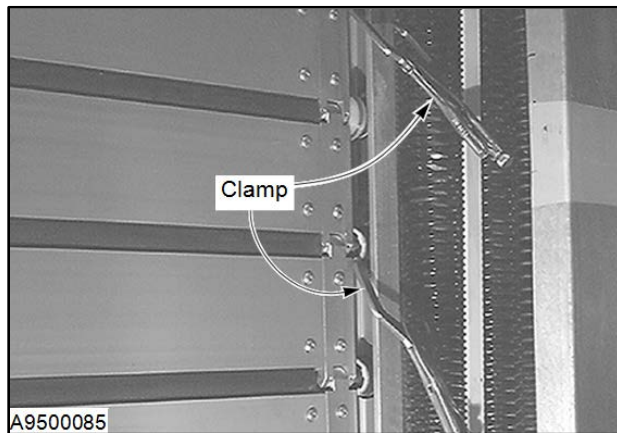

Figure 54
4. Place clamps across the exposed door track to secure the door and prevent it from accidentally falling once belt tension is released. (See Figure 54.)